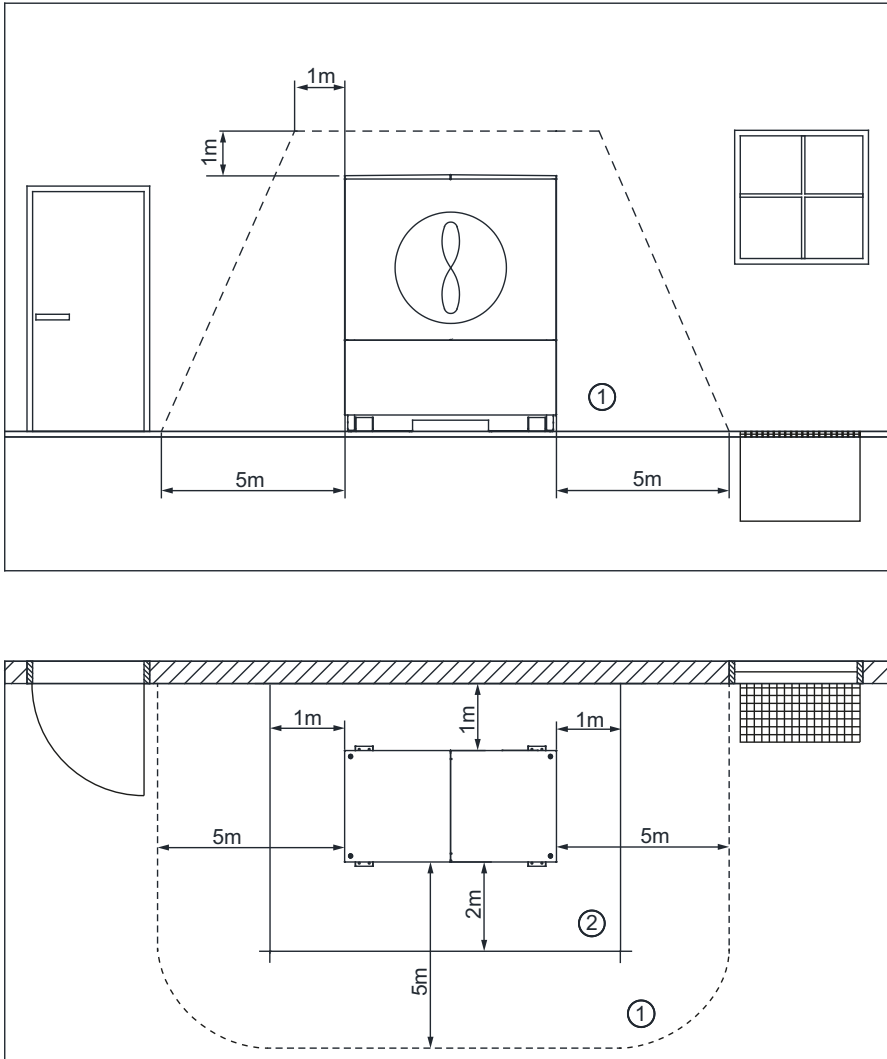
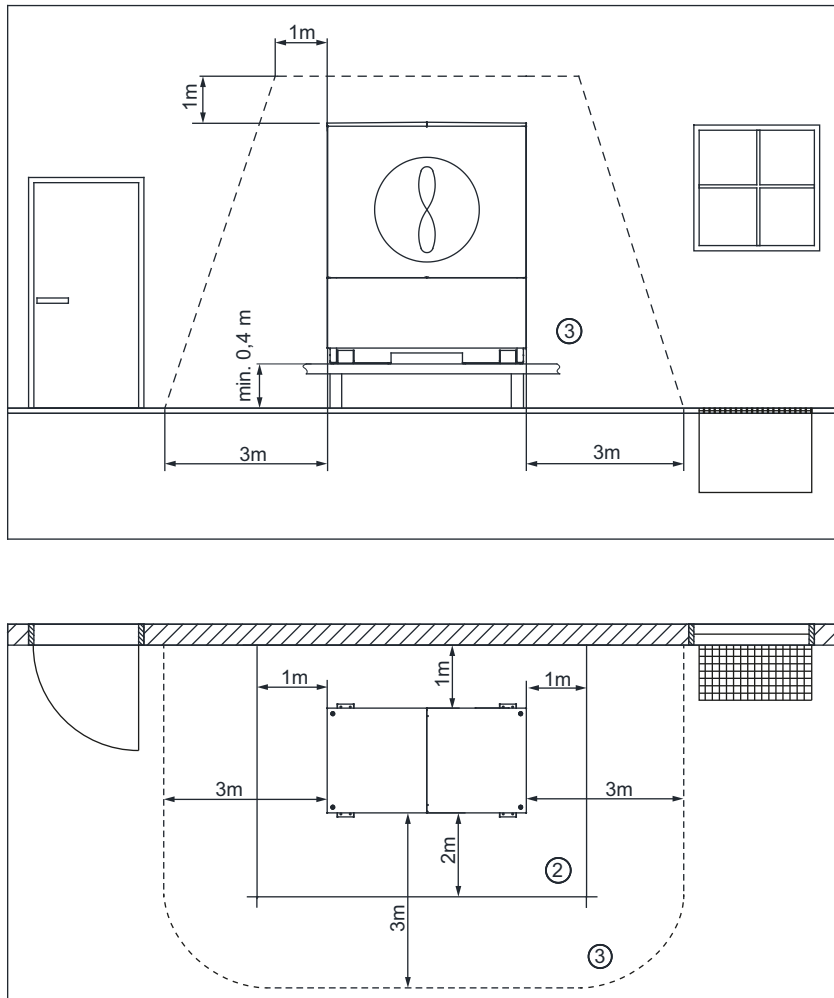

Fig. 6.1: Safety zone and maintenance area of the heat pump
Fig. 6.2: Safety zone and maintenance area of the heat pump in the event of base installation
To carry out maintenance work, a maintenance area ②, see Fig. 6.1 on page 8 and Fig. 6.2 on page 9, must be kept freely accessible at the illustrated distances. When installing several heat pumps, observe the maintenance distances ② between the individual heat pumps.
A **safety zone** ① of 5 metres all the way around the device must be observed (Fig. 6.1 on page 8). In this area, there must be no sources of ignition, windows, doors, ventilation openings, light wells, openings to the sewer system and similar. Open
When installing the heat pump on a base (elevation) with a base height of at least 40 cm, the safety zone ③ can be reduced to 3 metres around the heat pump (Fig. 6.2 on page 9). The base